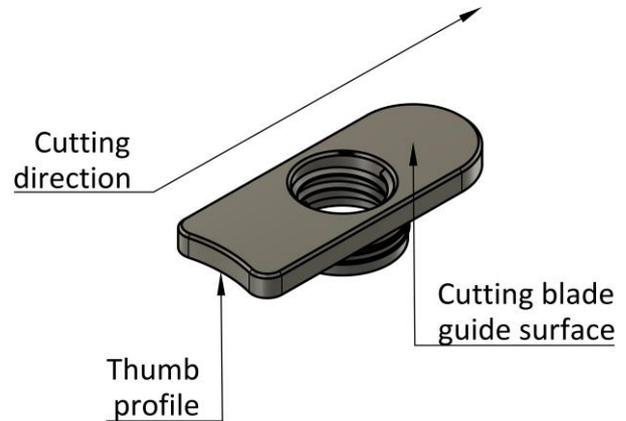

Figure 2
- When using the *Cutting Guide* independently of the *Tool Holder*, it is recommended that you steady the *Cutting Guide* using your thumb on the thumb profile (refer to *Figure 2*). Do not use the thumb profile when the *Cutting Guide* is attached to the *Tool Holder*.